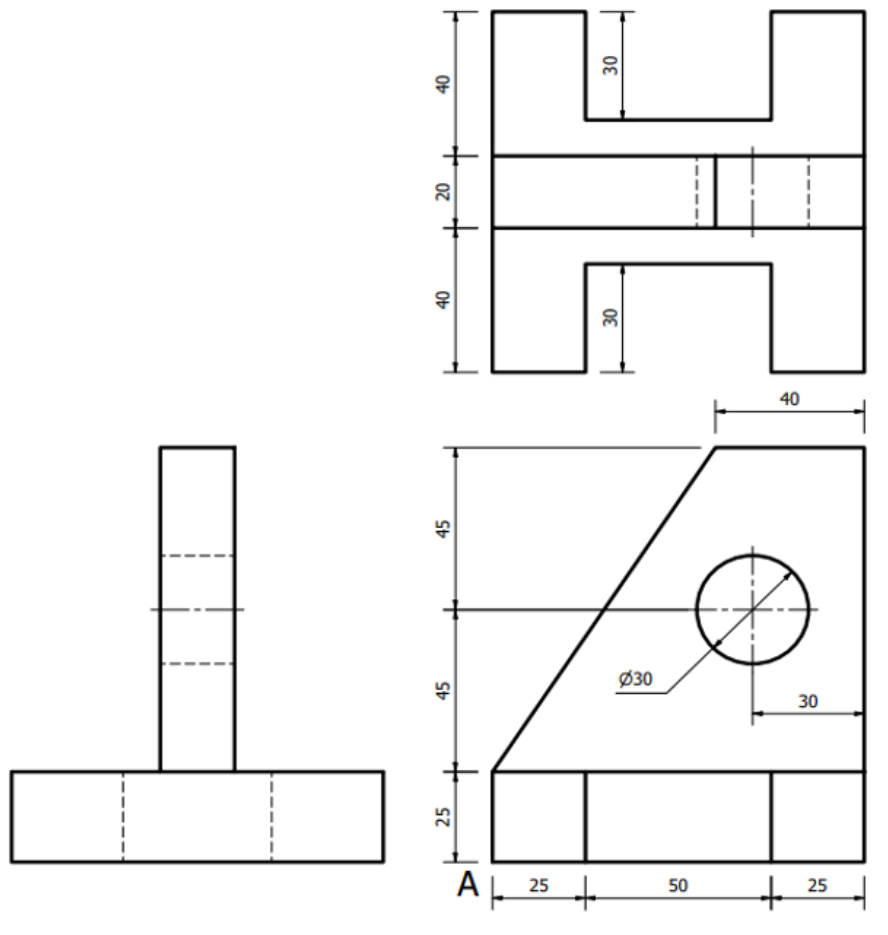

Figure 1
14. **Figure 1** shows orthographic views of a machine block, drawn in third angle projection.